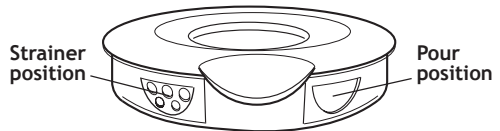

Figure 4
8. Use the Handle to lift the Blending Jar off the Base. Turn the Blending Jar Lid to either the strainer or the pour position to serve from the Jar. (See Figure 4.)